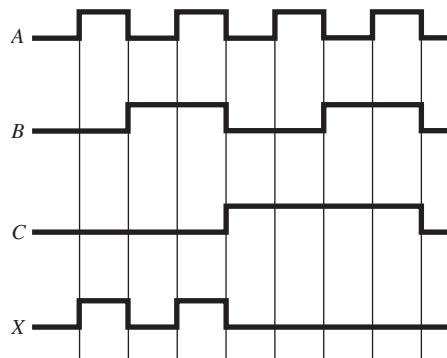

Figure 5–78
- Write the simplified equation that will produce the output waveform at X , given the inputs at A , B , and C shown in Figure 5–78.
- The logic circuit is shown in Figure 5–79(a).
- Redrawing the same circuit using only NANDs produces the circuit shown in Figure 5–79(b).